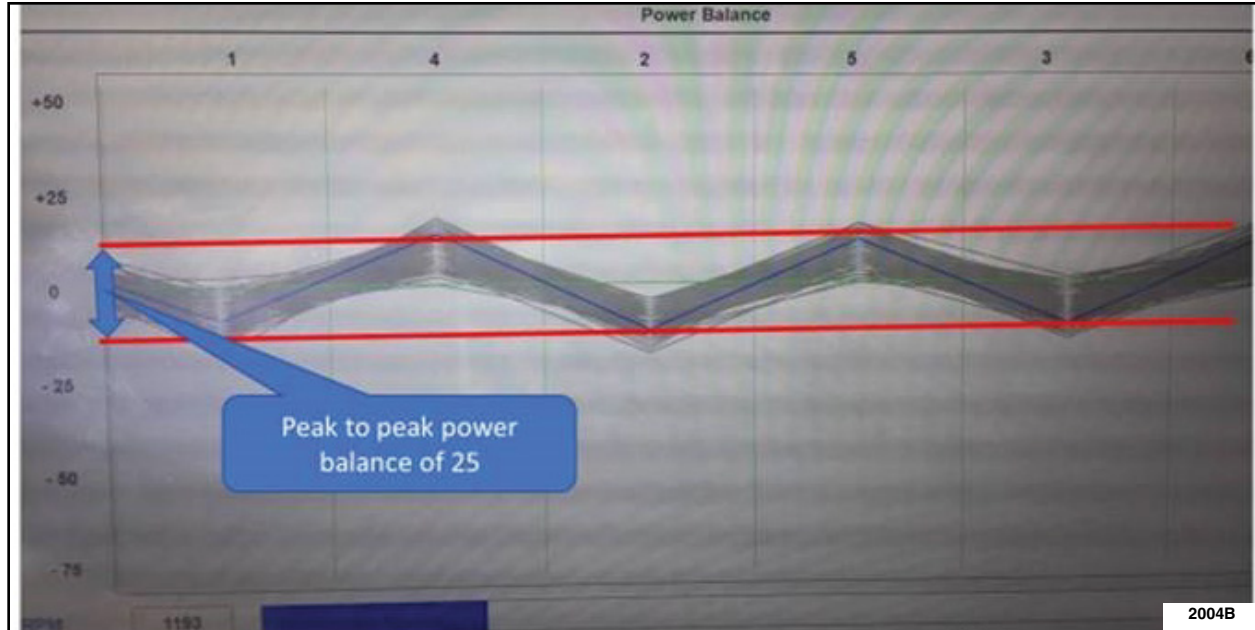

FIGURE 1
19. Was a shudder noticed? See Figure 1.